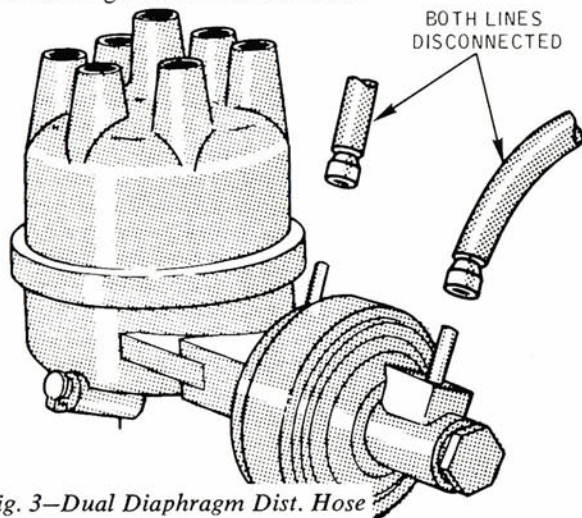

Fig. 3—Dual Diaphragm Dist. Hose
3. At the end of the engine warm-up period, connect a timing light and check initial ignition timing. Engine speed must be below 600 rpm to avoid erroneous readings due to partial advance of the distributor. Also disconnect and plug the distributor to the carburetor vacuum hose. (If the engine is equipped with a dual diaphragm distributor, disconnect both hoses (Fig. 3) and plug them). Also check the centrifugal advance mechanism.